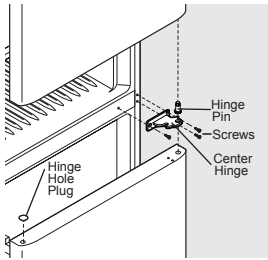

Figure 2
- Using a T25 Torx Head screwdriver, remove the 3 center hinge screws, and set center hinge aside (see Figure 2).